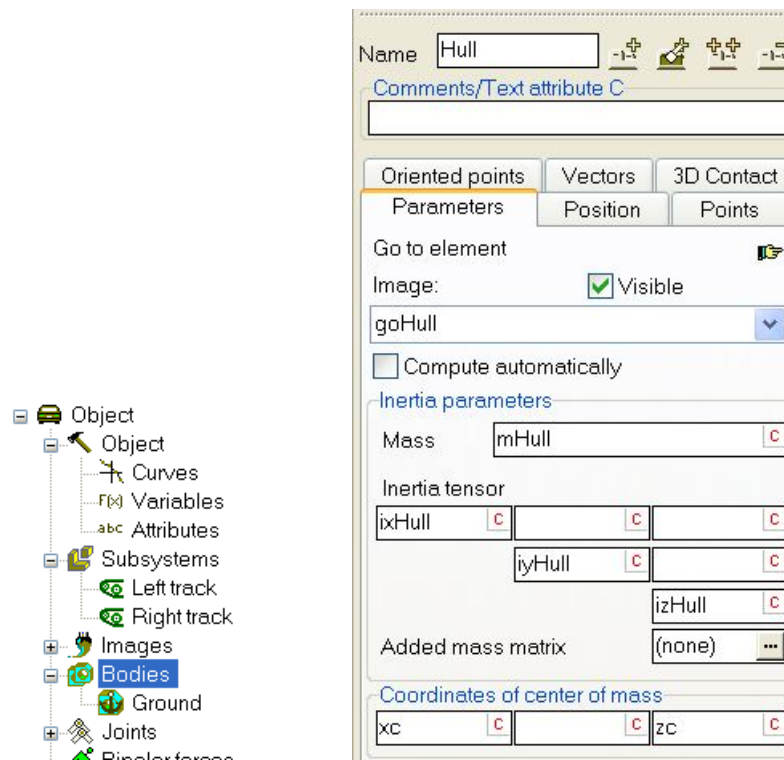

Fig. 27 Adding a body
- select the **Bodies** item of the element list, Fig.27;
It is recommended to parameterize the inertia parameters like in Fig. 27. An example of numeric values of inertia parameter is shown in Fig. 28.